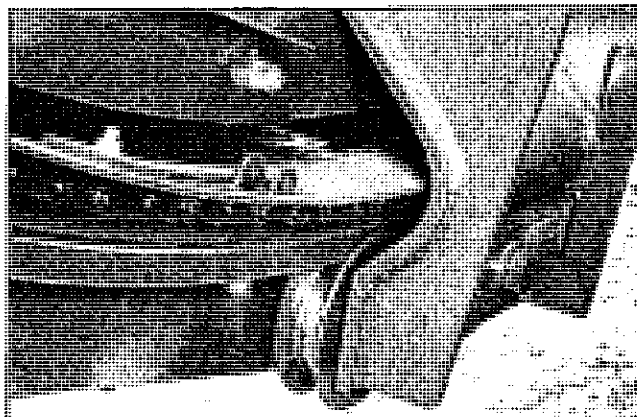

Figure 3.11: Lower Retainer Installation
Install the bottom of the retainer first with four (4) 1/2" x 1-1/4" hex bolts, four (4) 1/2" lock washers, two (2) 1/2" flat washers and four (4) 1/2" nuts provided. Make sure the sides of the retainer are outside the attaching panels as shown (see Figure 3.11).